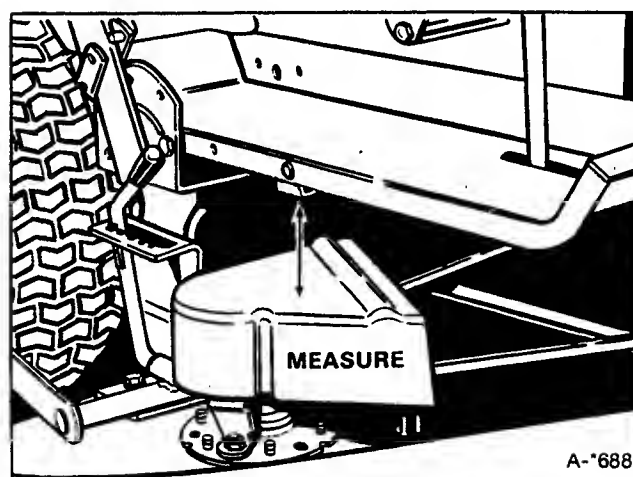

Figure 41. Measurement - Lift Lever
2. Measure the distance between top of pulley cover and bottom of upstop bracket (figure 41).